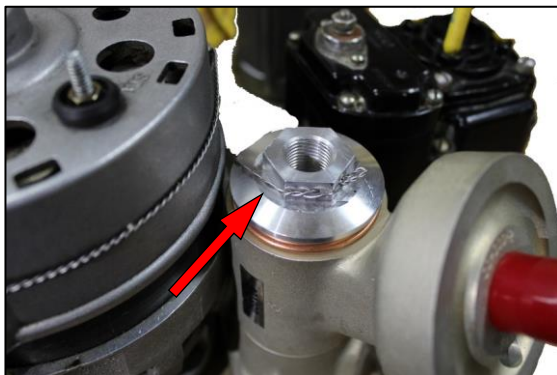

Figure 8
- a) safety-wire the spool to a suitable location on the engine. Wrap the safety-wire around the spool/sleeve in such a manner that the spool cannot turn counterclockwise (loosen), see Figure 8, and;